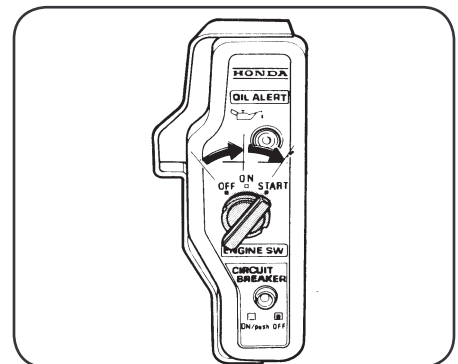

figure 10
- When the engine starts, allow the engine switch to return to the ON position. (Fig. 10)